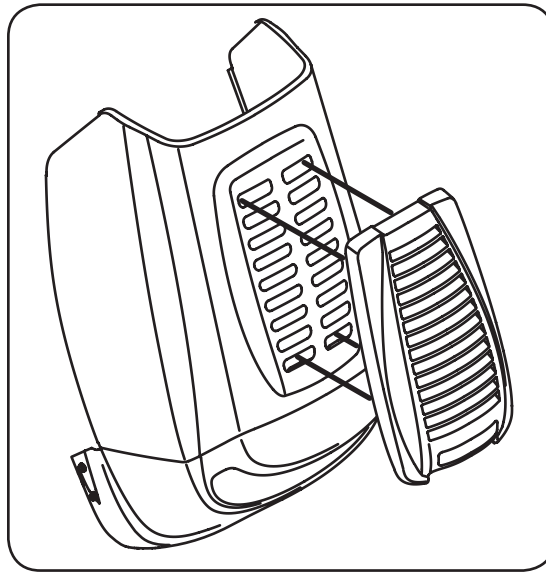

Figure 3-4
3. Line up the four holes in the hood scoop with the four holes visible through the tractor's hood louvers. See Figure 3-4.